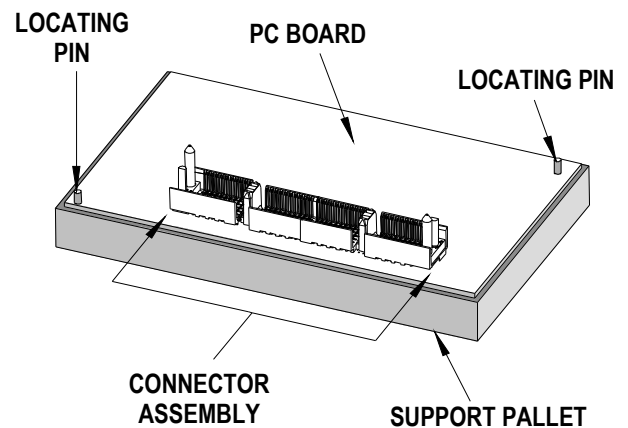

Figure 2-6
- Locate the pre-loaded board into the support pallet. See Figure 2-6.